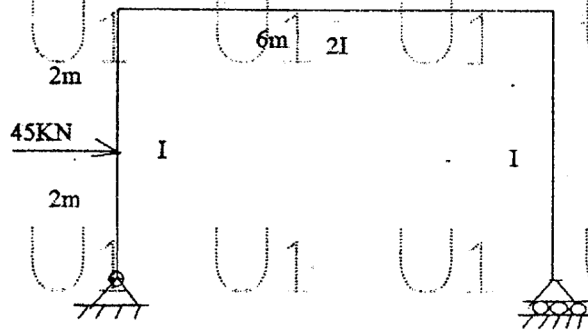

Figure: 3
4. Find the horizontal movement of the roller end of the portal frame shown in Figure 3. Take $E=2 \times 10^5 \text{ N/mm}^2$ and $I=3 \times 10^4 \text{ mm}^4$. [10]